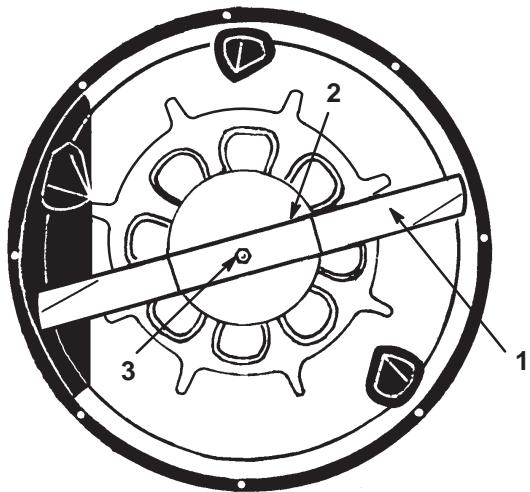

Figure 28
3. Grasp the end of the blade using a rag or thickly padded glove. Then remove the blade bolt, curved washer, blade stiffener, and blade (Fig. 28). A block of wood may be wedged between the blade and the mower to lock the blade when you are removing the bolt.
1. Install the blade, blade stiffener, curved washer, and blade bolt (Fig. 28).